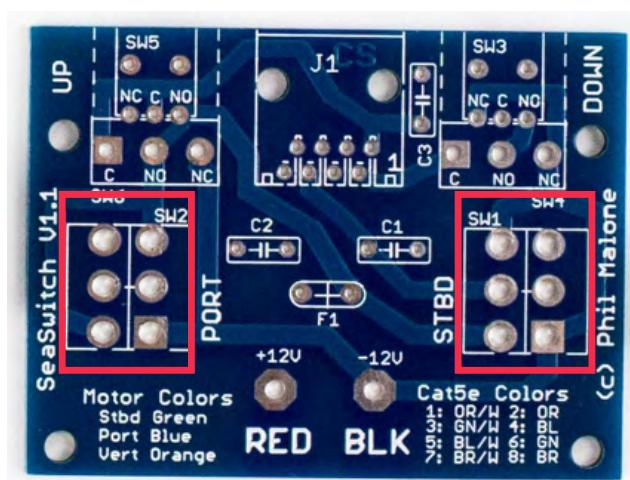

Figure 14
- Place the switches in the SW1 and SW2 locations on the component side of the PCB. (Figure 14 & 15)